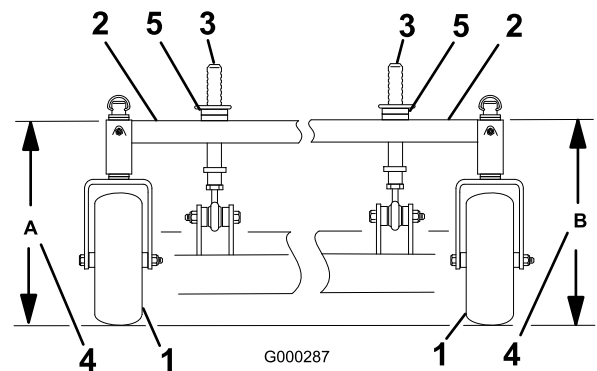

Figure 75
- Measure carrier frame height at location **A** (Figure 75).
- Measure carrier frame height at location **B** (Figure 75).